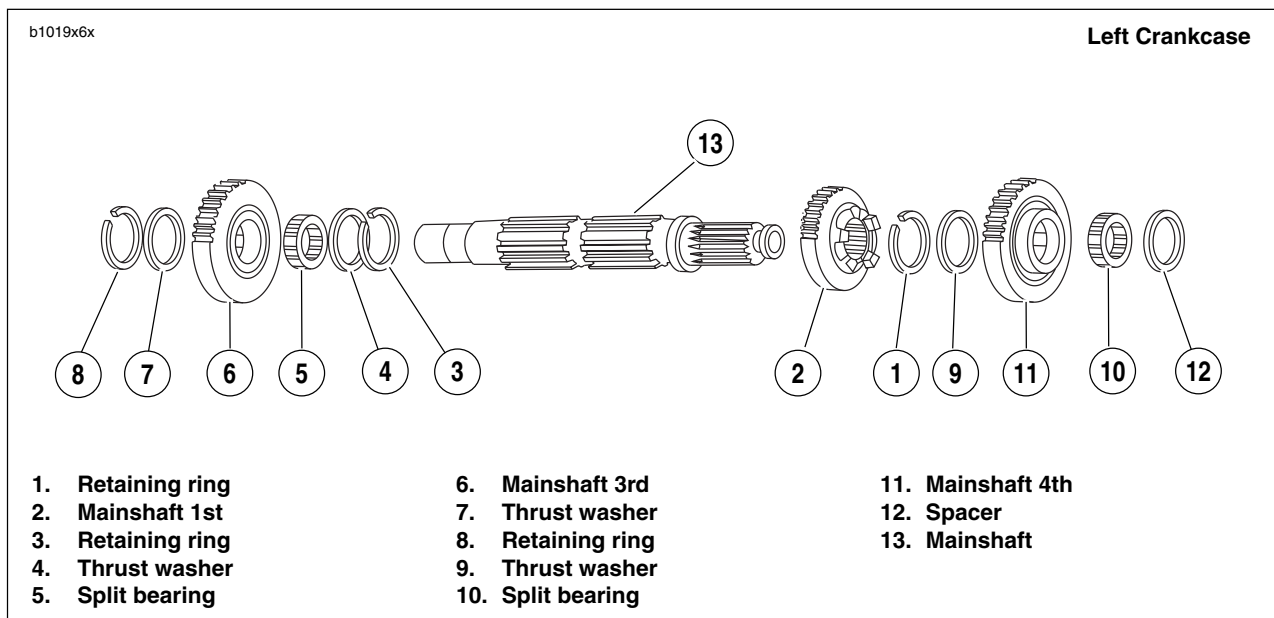

Figure 6-65. Transmission Mainshaft Assembly/Reassembly
1. See Figure 6-65. Install **new** retaining ring (1) onto mainshaft in the first ring groove from the threaded end of the mainshaft.
2. Slide mainshaft 1st gear (2), identified by two grooves in gear teeth, onto mainshaft with the fork groove facing mainshaft 4th gear (11).
3. See Figure 6-65. Install **new** retaining ring (3).
- a. Install thrust washer (4) onto mainshaft.
- b. Install split bearing (5) onto mainshaft.
- c. Install mainshaft 3rd gear (6) onto shaft over bearing (5). 3rd gear is installed with shifting lugs away from 1st gear mainshaft.